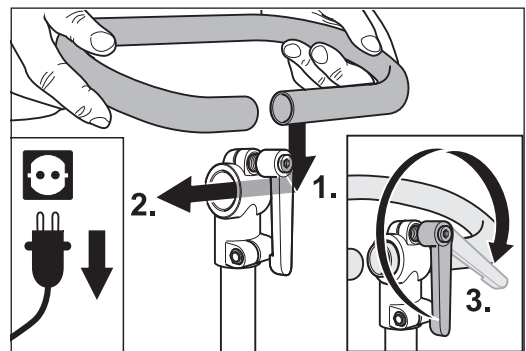

Fig. 10 Inserting the handlebar into the clamping piece of the extension and tightening the clamping lever.
- 2 Insert the long straight end of the handlebar into the clamping piece and tighten the clamping lever firmly. (Fig. 10).